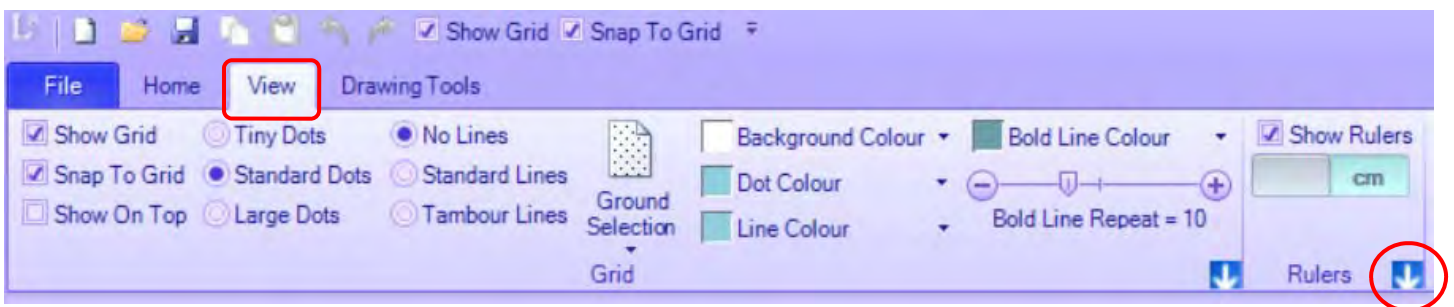

Fig. 2
2. Click on the drop down arrow next to the word RULERS (see Fig. 2)